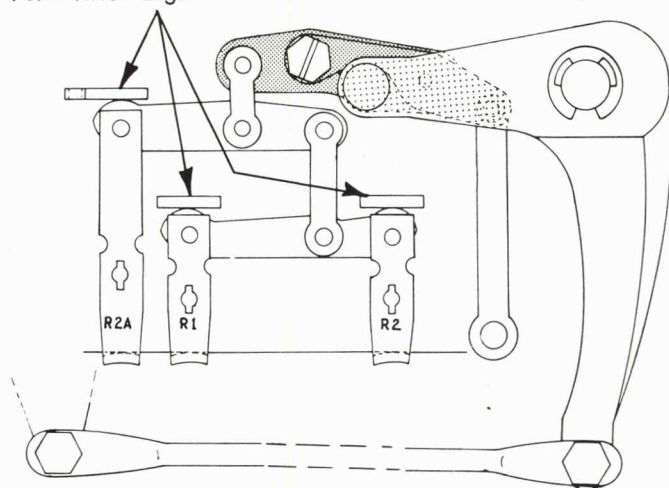

FIGURE 70. Rotate Selector Latches
- a. Form the stop lugs above the positive rotate selector latches (Fig. 70) so that the latches will reset simultaneously (under the latch bail) just as the cycle clutch check pawl drops into the notch on the check ratchet at the rest position.